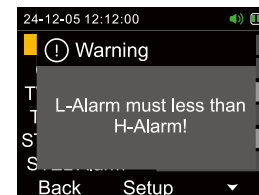

Fig 18
c. The low alarm value must be smaller than the high alarm value. If the low alarm value exceeds the high alarm value, a warning dialog box will appear (see Figure 18).